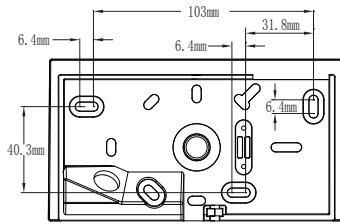

figure 1
- (4) install the bottom cover in the selected position according to figure 1.
- (5) fix the lamp body on the base and install the upper cover.